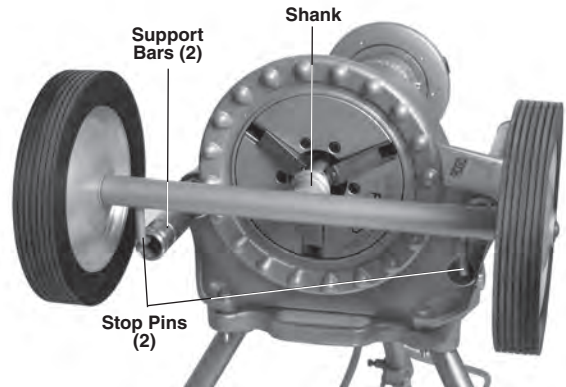

Figure 28 – Installing No. 32 Transporter
3. Insert shank of No. 32 Transporter into 300 Power Drive front chuck; stop pins should be in ends of support bars. Securely tighten the chuck on the transporter shank (*Figure 28*).